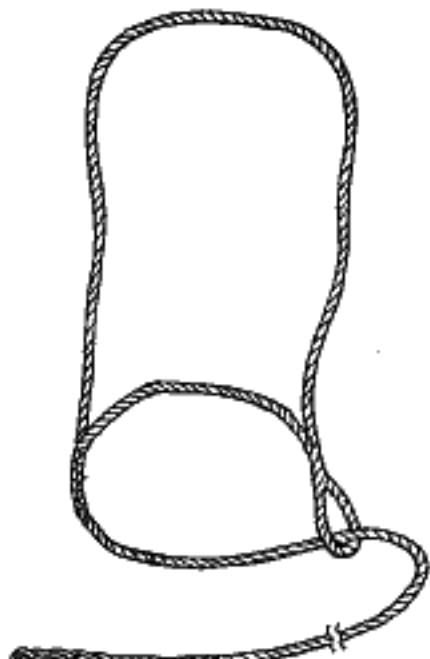

FIG. 352.—A nonadjustable halter.
**411.** A nonadjustable halter is illustrated in Fig. 352. It is made by making a loop splice, a side splice, and an end splice.